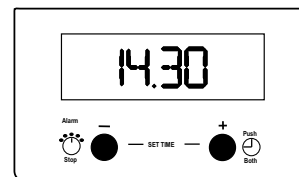

Fig.4
**Within 5 seconds** press and hold either button (1) to decrease or button (2) to increase the time until the correct time of day on the 24 hour clock is reached, e.g. 14.30. See Fig. 4.